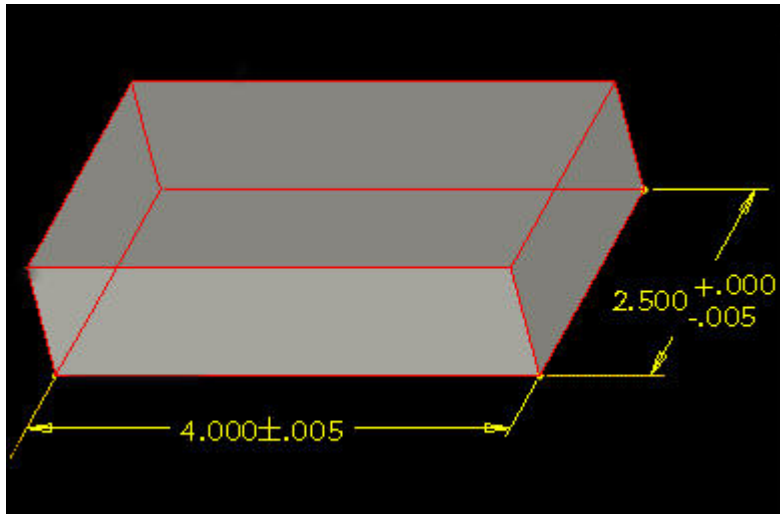

Fig. 18: Part with both unilateral and bilateral tolerances.
0.000/ - 0.010" the machinist would either shoot for 2.495" (the safest place to be - in the middle of the tolerance range) or if he was a nice guy would shoot for 2.499" in an attempt to get as close to the dimension the engineer specified. There was more risk in being close to the limit but with a good machine and a skilled machinist the level of risk was low. I'm sure you are thinking at this point that with modern CNC machines it should be even easier to achieve whatever dimension the engineer desires. In some regards this is true. We can "comp" (use cutter compensation) a CNC machine 0.0005" one way or the other and it will do it handily. But the real difficulty with unilateral tolerances lies in the programming of the part. Nearly all CNC machines these days are programmed from a 3D CAD model using CAM software. The programmer chooses edges or surfaces on the model to drive toolpaths. Figure 18 shows a basic rectangle with one side having a bilateral tolerance and the other having a unilateral tolerance.
This is a pretty common example. In this case, the easiest way to program and manufacture this part is with a profile cut from the top of the part which establishes both the 4.000" and 2.500" dimensions at the same time with the same cutter. The CNC program by default will drive the tool at the nominal size of the CAD model. It will create a rectangle that is 4.000" x 2.500". But the sides with a 2.500" dimension will be practically out of tolerance as programmed since we cannot be on the plus side of nominal at all. And with the typical small amount of cutter deflection outward, the 2.500" dimension will likely be out of tolerance. This makes the programming of the part take much longer as the programmer will have to compensate for this with manual adjustments to the program, adjustments to CAM parameters or a separate program with tool paths for each side. The set-up of the part on the CNC machine may also take longer if the machinist needs to apply cutter compensation in order to bring the part closer to the middle of the tolerance zone. In an extreme example, if you had a tolerance of + 0.005"/ - 0.000" on the 4.000" dimension, it would be virtually impossible for either dimension to be in spec without major tweaking to the program. This brings up the other point about unilateral tolerances. Most CNC shops want to run the dimensions in the safest range to minimize the chance of scrap. So in the case of the part in Fig. 18, they would likely try to run the 2.500" dimension at 2.4975" which is exactly in the middle of the + 0.000"/ - 0.005" range. This somewhat defeats the purpose of specifying a unilateral tolerance in the first place. It would be easier for everyone involved if the engineer put a symmetric bilateral tolerance at 2.500" or 2.497" because more than likely it is what will be delivered anyway.